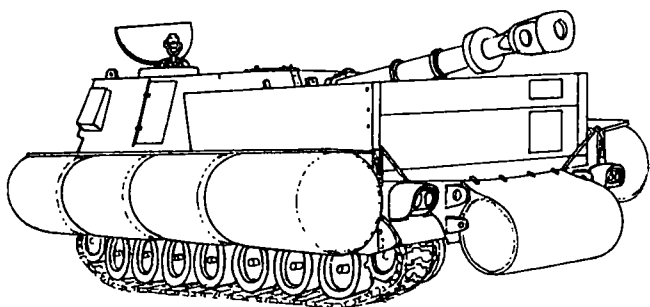

Figure 9. Howitzer prepared for amphibious operation.
- (1) Dispersing ammunition in small stacks.
- (2) Storing ammunition in trenches or dug-outs.
- (3) Insuring that each stack of ammunition does not contain more than 50 rounds and is not more than three layers high.
- (4) Placing stacks of ammunition at least 10 meters apart.
a. General. The howitzer can be equipped with a flotation device which will enable the vehicle to navigate rivers, lakes, and other water obstacles (fig. 9).
- (1) *Bags.* Four bag-retainer assemblies will be installed on each side of the vehicle, and one bag on the front of the vehicle.
- (2) *Water Barriers.* Barriers will be installed on each forward side and across the front of the vehicle to reduce water seepage to the power plant compartment.
- (3) *Auxiliary Equipment.* Auxiliary equipment includes the necessary valves, blowers, hoses, and fittings to inflate the bags.